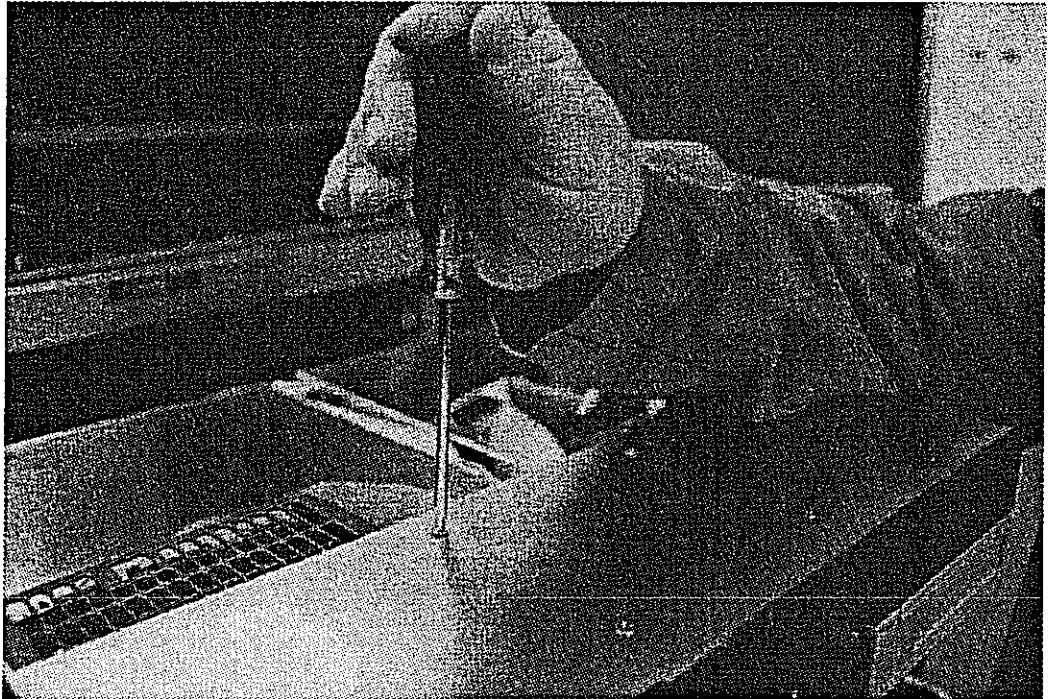

Figure 7-38. Removing EX-2 Bracket Upper Screws
- a. Remove the two top screws as shown in Figure 7-38.
- b. Replace the two top screws as shown in Figure 7-38.